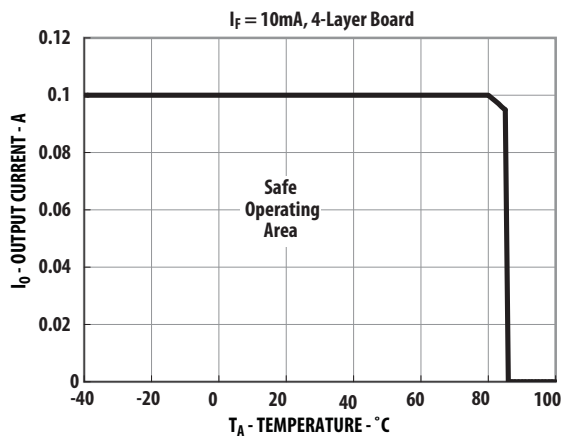

Figure 1. Maximum Output Current Rating vs Ambient Temperature (ASSR-4118-003E)
- For derating, refer to Figure 1, 2, 3 and 4.
Figure 1, 2, 3 and 4 specify the maximum average output current allowable for a given ambient temperature. The maximum allowable output current and power dissipation are related by the expression  $R_{ss} = P_o(\text{max}) / (I_o(\text{max}))^2$  from which  $R_{ss}$  can be calculated. Staying within the safe area assures that the steady state MOS-FET junction temperature remains less than  $125^\circ\text{C}$ .